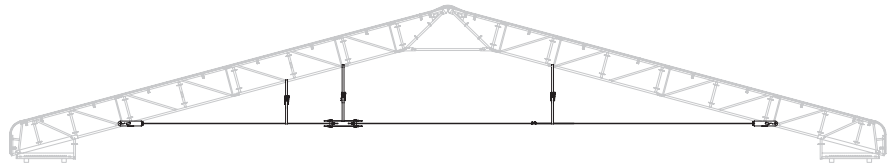

Fig. A7.01a
- Girder package must be placed on the ground for installing the tension system, and must not be suspended on the crane. (Fig. A7.01a)